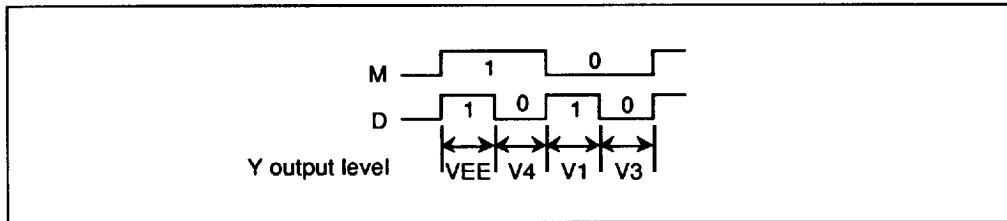

Figure 3 Selection of LCD Drive Output Level
**Y1—Y80:** Each Y outputs one of the four voltage levels V1, V3, V4, or VEE, depending on a combination of the M signal and display data levels. See figure 3.